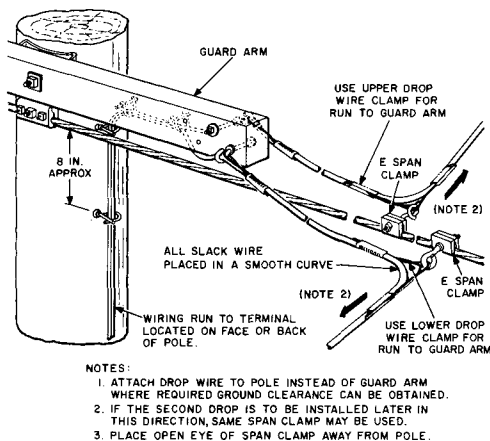

Fig. 3—Spans to Guard Arm
**3.02** Where the distance between the span clamp and cable suspension bolt is over 3 feet, support the drop wire run as shown in Fig. 3 and 4.
**3.03** The following procedure should be used to obtain maximum separation between the drop wire and the cable (Fig. 3 and 4):